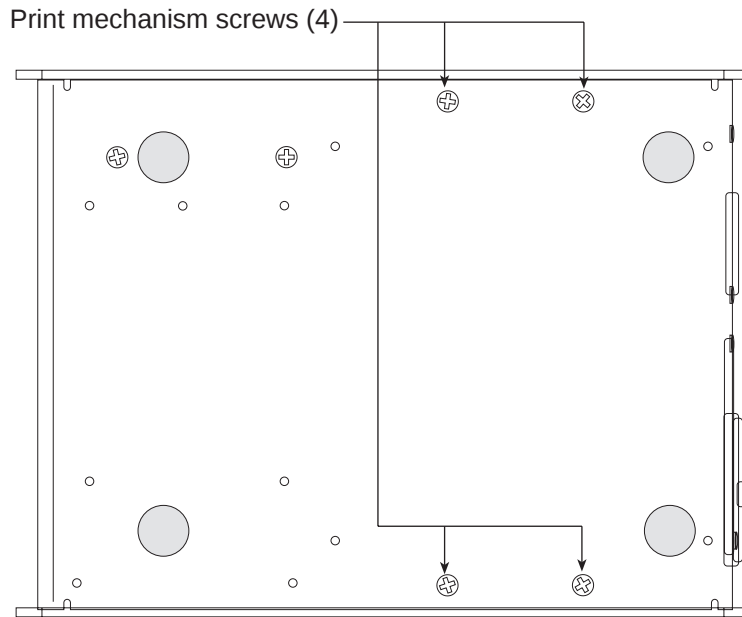

Figure 2-9. Bottom view of SP2200, showing screws for removing print mechanism
4. If the print mechanism must be removed, turn the printer on its side and remove the 4 screws that hold the print mechanism to the bottom of the base enclosure (see Figure 2-9).